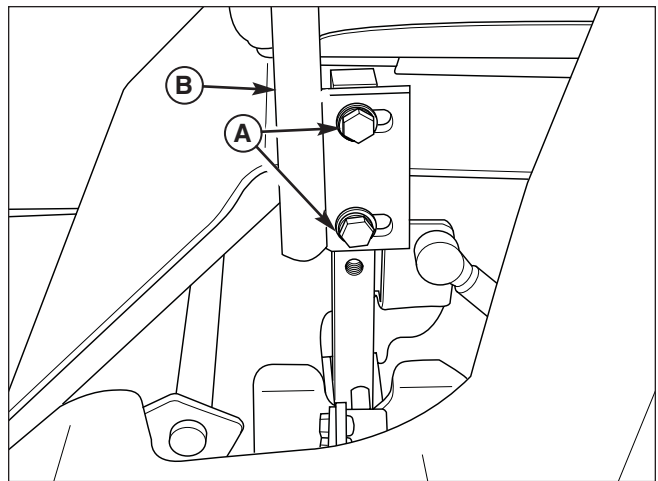

Figure 33. Control Lever Adjustment
Loosen the mount bolts (A, Figure 33) and pivot the lever(s) (B) to align with each other.
Loosen the jam nuts and adjust the placement bolt (C, Figure 33) in or out to properly adjust the lever end spacing.